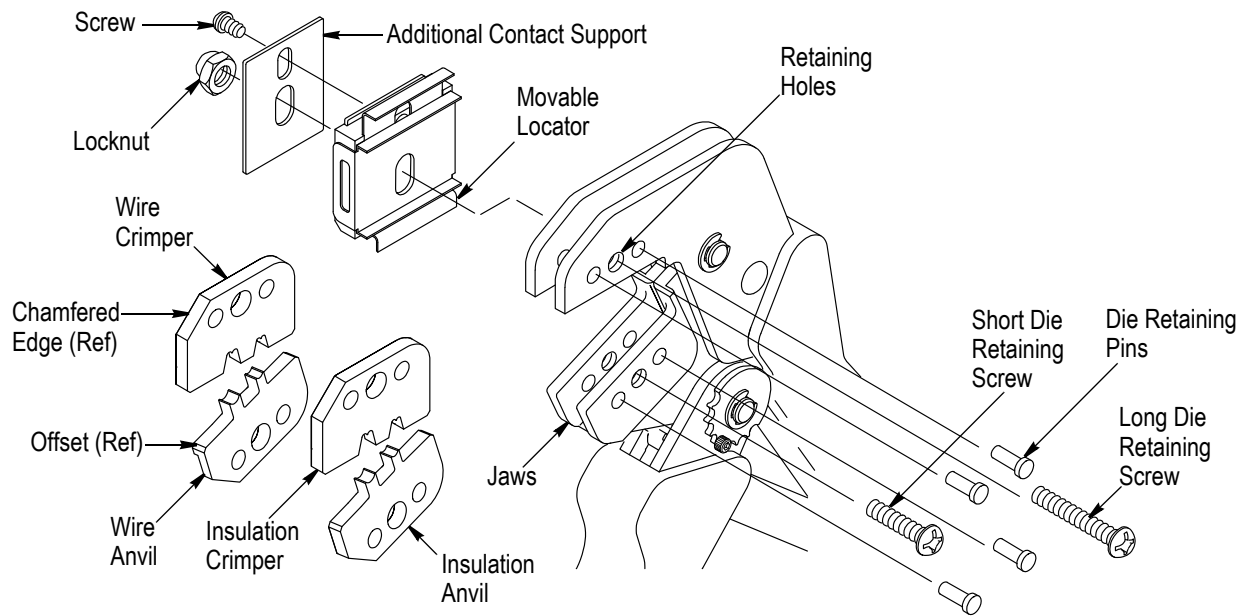

Figure 2
2. Place the wire anvil and insulation anvil with the chamfered edges and marked surfaces facing outward in the moving jaw of the tool frame as shown in Figure 2, and align the retaining holes in each die with the associated hole in the tool.
5. Place the wire crimper and insulation crimper with the chamfered edges and marked surfaces facing outward in the stationary jaw of the tool frame as shown in Figure 2, and align the retaining holes in each die with the associated hole in the tool.
9. Place the locator assembly and the additional contact support over the end of the long screw, and position the locator assembly against the side of the tool jaw. Refer to Figure 2.